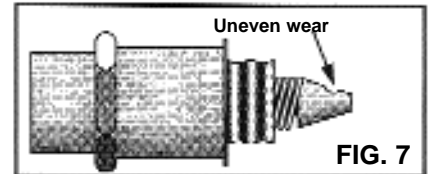

FIG. 7
2. On models with an exposed pintle and shaft, look for evidence of a bent shaft by examining the pintle. Look for rub marks or scrapes that only appear on one side of the pintle (Fig 7). Uneven wear indicates a bent shaft or worn bushing. Either of these requires replacement of the IAC motor.